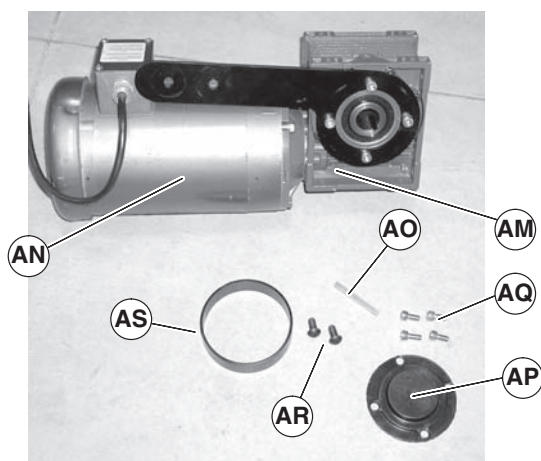

Figure 16
1. Locate components in Figure 16.